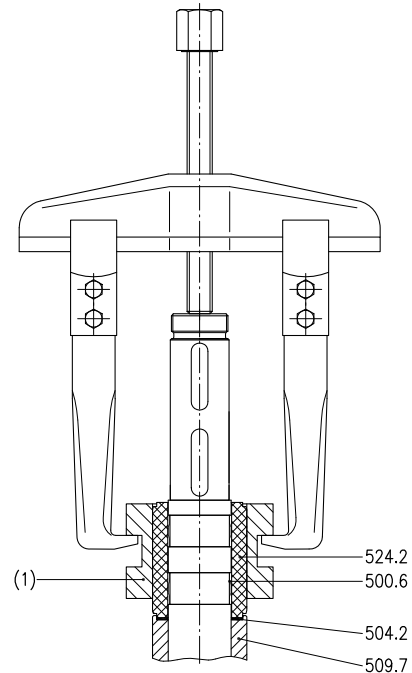

Fig. 16: disassembling sleeve
1. Fit the disassembling sleeve (1) – see chapter 7.4.3 – to the shaft sleeve 524.2 and tighten it (Figure 16).